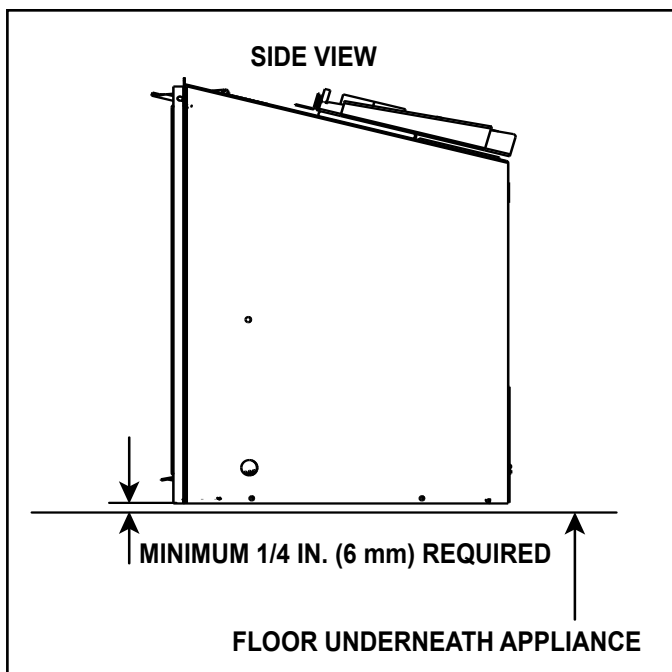

Figure 3.3 Solid Fuel Floor Clearance
- A minimum 1/4 inch gap from the bottom of the appliance to the metal floor of the solid fuel firebox is **REQUIRED**. See side view in Figure 3.3.